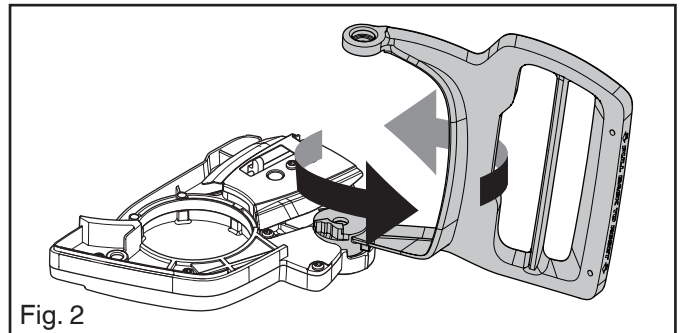

Fig. 2
3. Carefully tighten the clutch housing in a vice. Release the brake by using the kickback guard as a tool. See Figure 2.